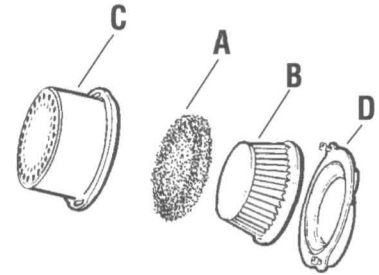

Figure 5-3: Foam pre-cleaner (A), paper element air filter (B), cover (C), and base (D).
- The foam pre-cleaner (A, Figure 5-3) should be cleaned and oiled every three months or every 25 operating hours.
- The paper element air filter (B) should be replaced once a year or every 100 operating hours. Do not attempt to clean or oil the paper filter.